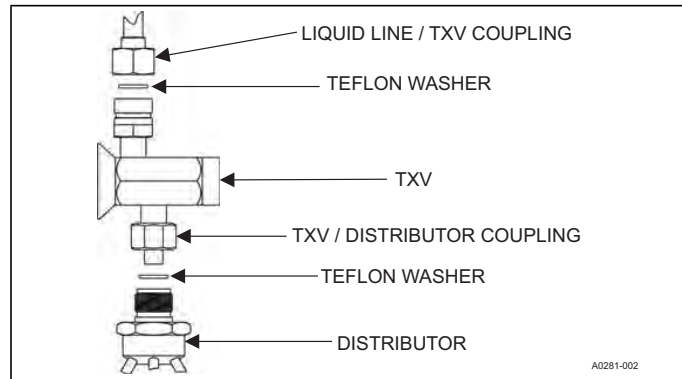

FIGURE 7: TXV Installation
4. Install the thermal expansion valve to the distributor assembly with supplied fittings. Ensure Teflon washer is seated in distributor. Hand tighten and turn an additional 1/4 turn to seal. Do not over-tighten fittings. See Figure 7.